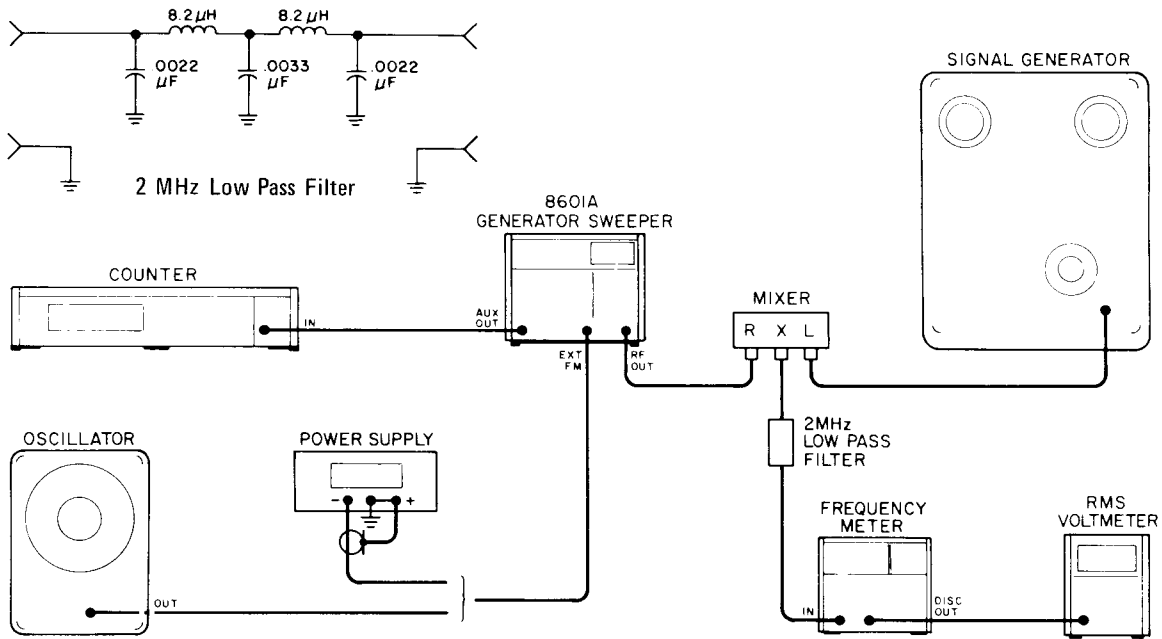

Figure 4-5. External FM Test Setup
1. Connect dc power supply and counter to 8601A as shown in Figure 4-5.
10. Connect equipment as shown in Figure 4-5. Set 8601A RANGE to 110, FREQUENCY to 60 MHz and adjust Signal Generator for 61.0 MHz at a level of about -10 dBm.
1. Setup equipment as shown in Figure 4-5. Audio Oscillator, DC Power Supply and Counter/Marker Generator are not needed.